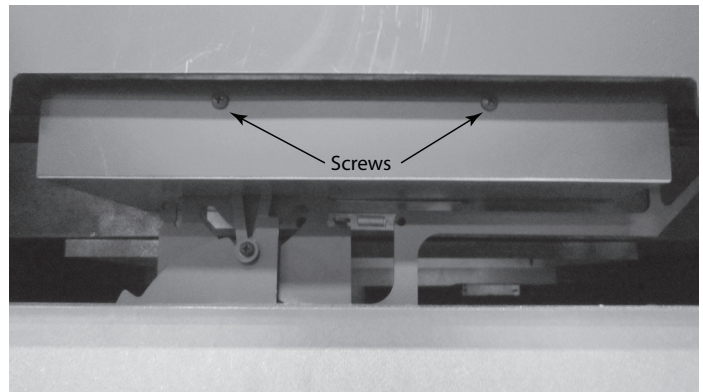
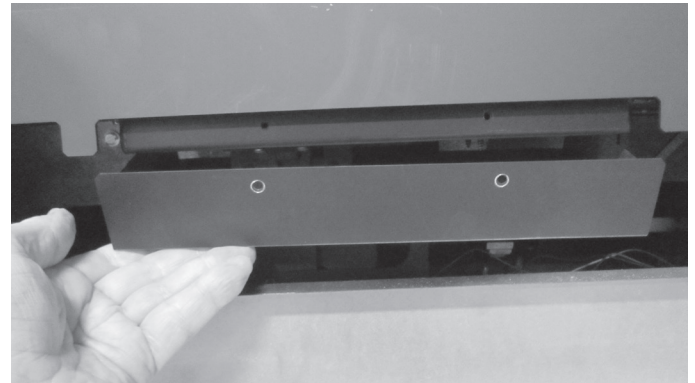

**Figure 4.26 Air Chamber Cover**
**Figure 4.27 Removal of Air Chamber Cover**
12. Reinstall air chamber cover. See Figure 4.26.
2. Remove the two (2) screws in the cover. See Figure 4.26 and pull it down and off. See Figure 4.27.